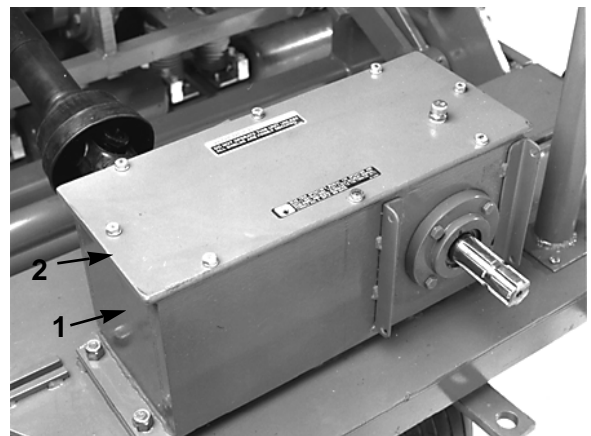

Figure 20
1. With the machine on a levels surface, remove the gear case cover (Fig 20).